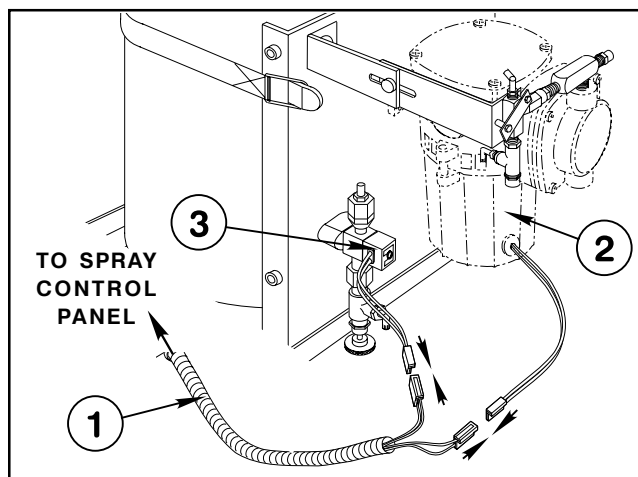

Fig. 14
7. Locate Wiring Harness and make the connections to the Compressor and Solenoid located at the Foam Tank/Compressor Assembly. NOTE: BOTH PLUG CONNECTIONS ARE THE SAME. (Fig. 14)